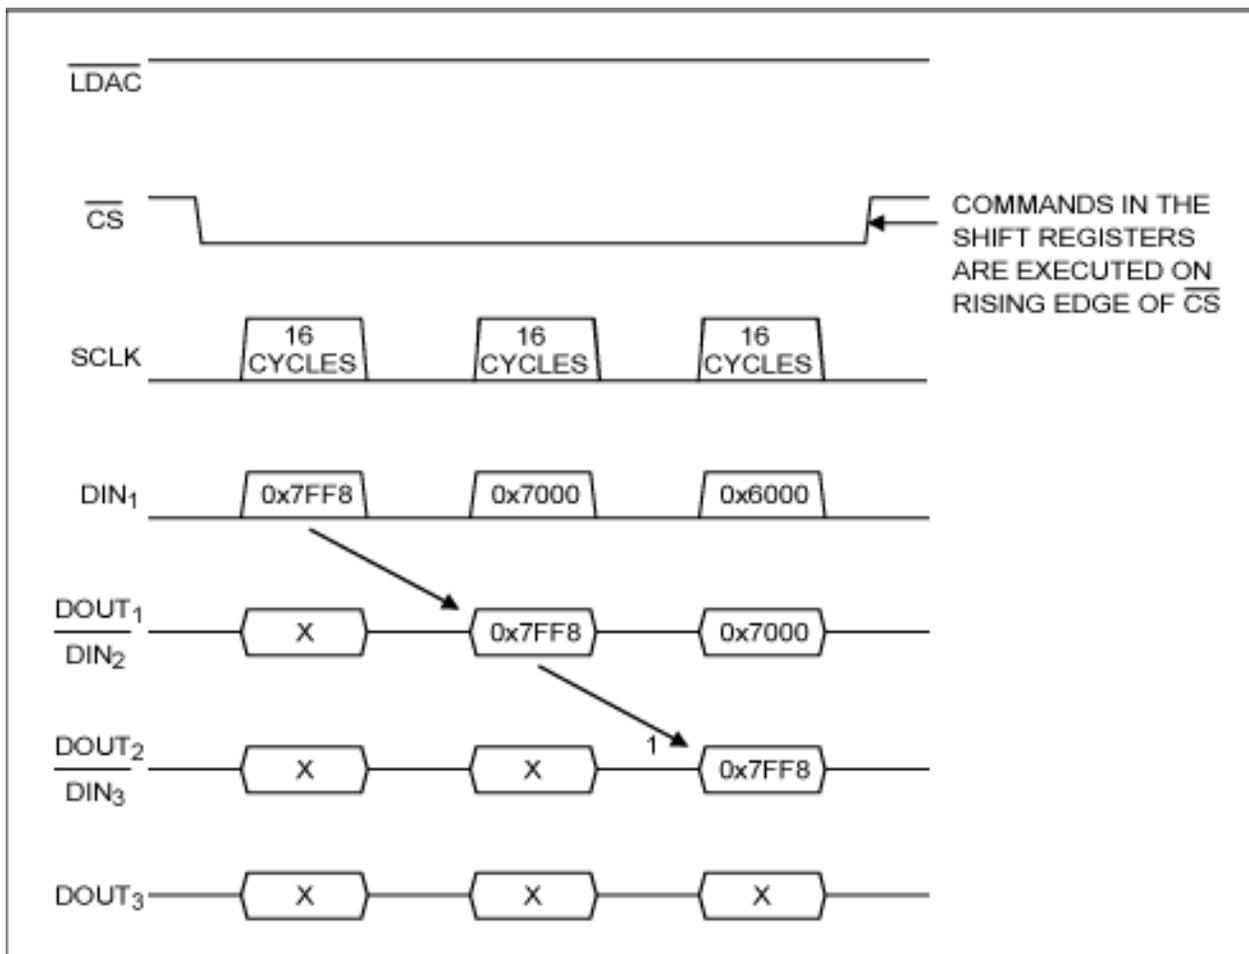

Figure 4. Circuit #1—Command Sequence A.
**Figure 4** shows the command sequence to set IC1's (A1 and B1), IC2's (A2 and B2), and IC3's (A3 and B3) outputs to zero-, mid-, and full-scale, respectively. For this example, the following commands are used: